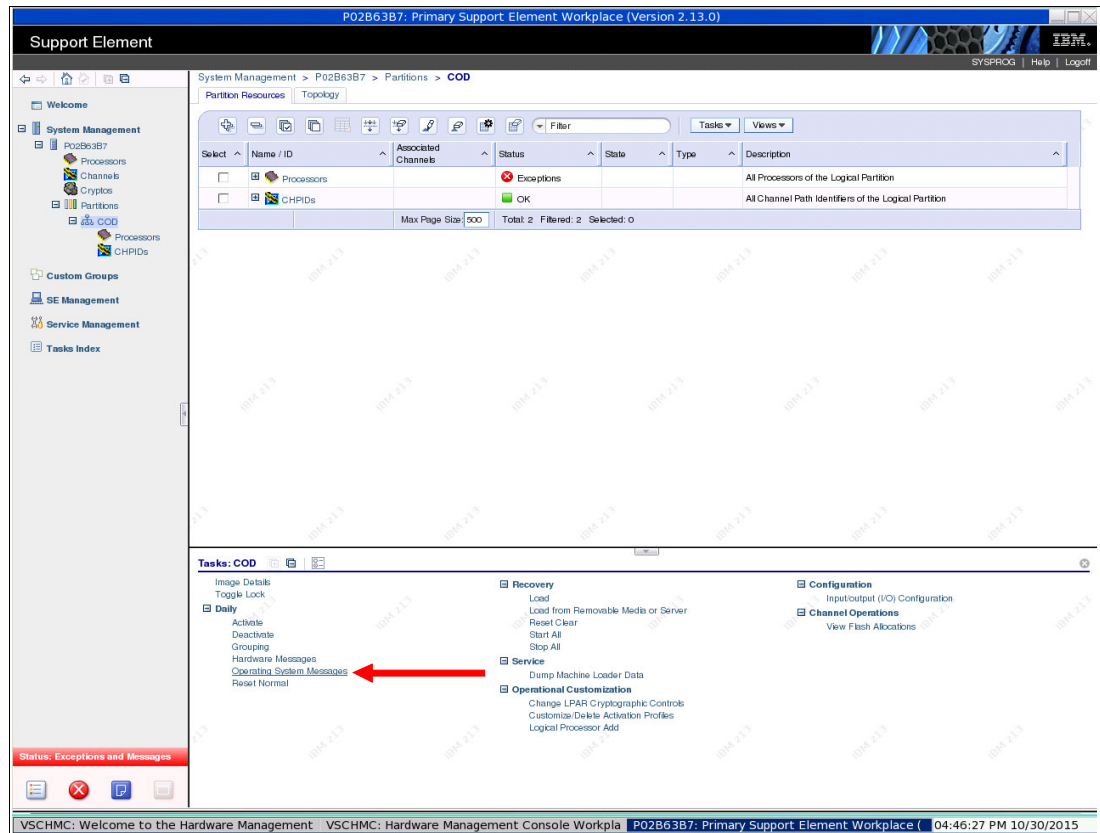

Figure 8-10 Selecting Operating System Messages option
- In the Tasks tab at the bottom of the window, we select **Daily** → **Operating System Messages**, as shown in Figure 8-10.